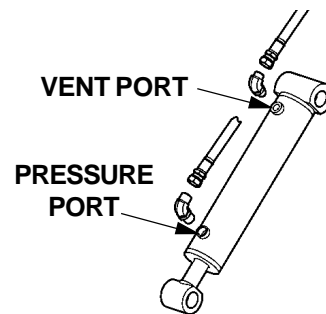

FIG. 38-1
4. Check the Hydraulic Cylinder. With the Platform on the ground, remove the Breather Plug or Vent Line from the Vent Port of the Cylinder (**FIG. 38-1**). Raise the Platform even with the bed. Allow pump motor to run two seconds more while you watch for hydraulic fluid at the Vent Port. A few drops of hydraulic fluid escaping the Vent Port is normal; however, if it streams from the Vent Port, Piston Seals are worn. Replace Seals.